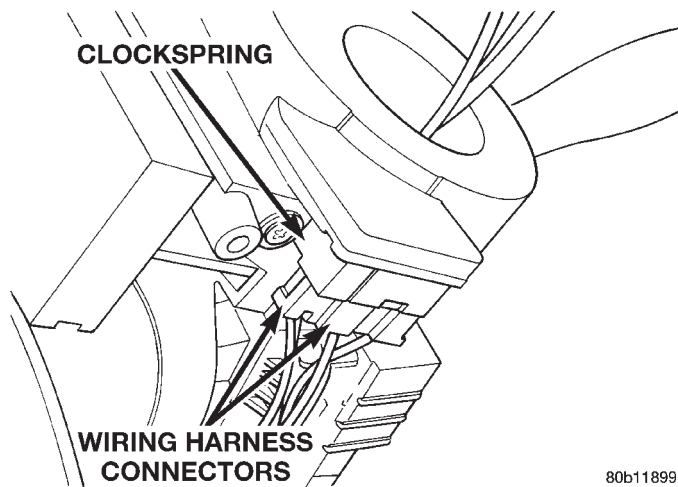

Fig. 12 Wiring Harness Connection To Clock Spring
(18) Remove the 2 wiring harness connectors from the clockspring (Fig. 12).
(8) Install clockspring on switch housing. Install the 2 wiring harness connectors on the clockspring (Fig. 12). Then install wiring harness connector on lock housing halo light (Fig. 12).